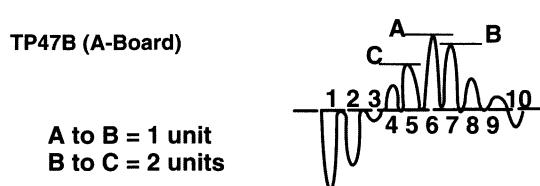

Figure 21. TP47B waveform
- In the Serviceman Mode for making electronic adjustments, select DAC Sub-Tint Adjustment (B1). Adjust until the waveform measured is as the one shown in Fig. 21.